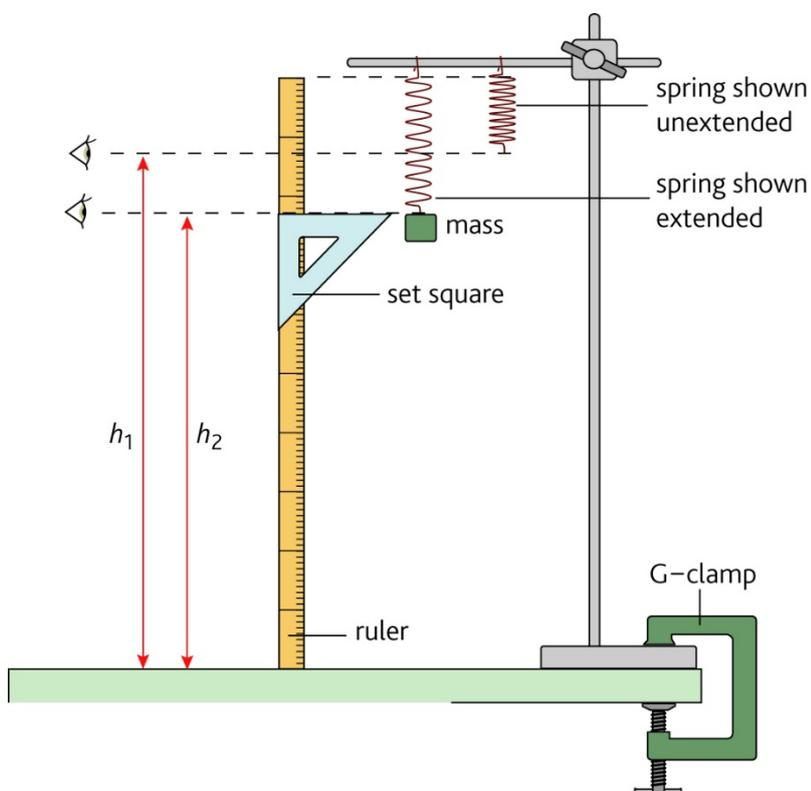

Figure 1 Experimental set-up to measure the extension of a spring
- 1 Secure the first stand to the bench and hang the spring from the clamp. Tie a loop of string through the bottom of the spring. Adjust the ruler and secure it in place as close to the spring as possible, using the second stand and both its clamps. Use the set square to ensure that the ruler is vertical (see Figure 1).